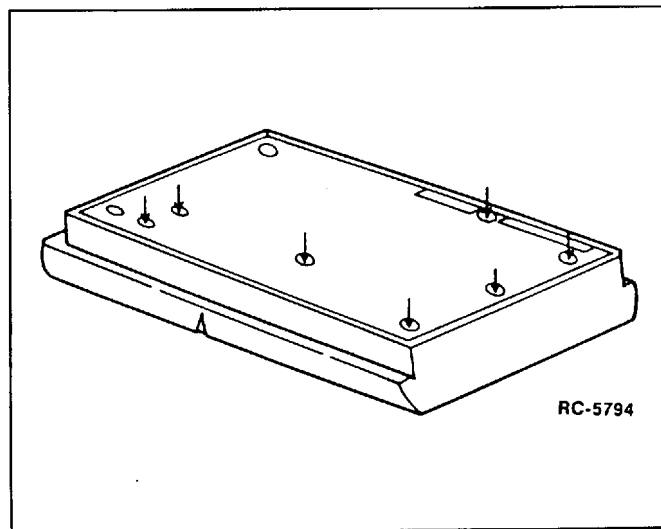

Figure 10 - RF Section With Back Casting
- b. Tightening clamp screws (eight places) and egg crate mounting screw on the Radio Unit may greatly affect transmitting and receiving spurious. If the Radio Unit is disassembled for maintenance, when reassembling, tighten the screws in the unit properly (refer to Figure 10).